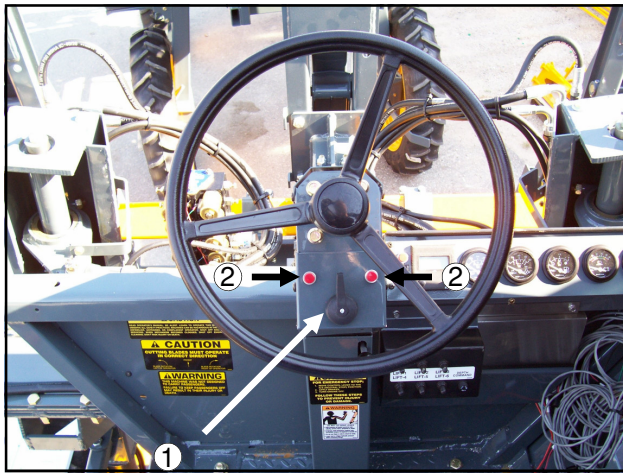
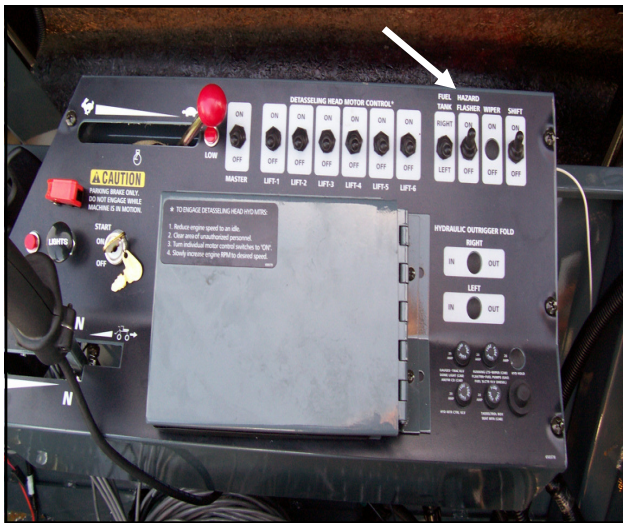
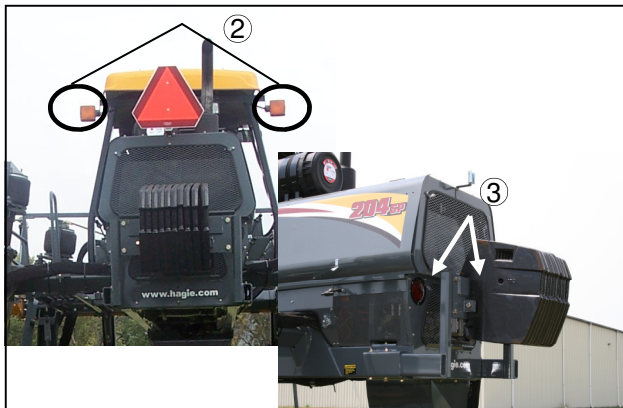

FIG 5.76
FIG 5.77
FIG 5.78
To activate the front (fig. 5.78, item 1) and rear turning signals (fig. 5.78, item 2) move the turn signal lever (fig. 5.76, item 1) right during a right-hand turn and left during a left-hand turn. Steering column-mounted turn signal indicators (fig. 5.76, item 2) will correspondingly flash when either side of the turn signals is activated. The turn signal lever is not a self-centering switch; you must return it to the “OFF” position by hand after completing your turn.
To activate the flashing hazard/warning lights (fig. 5.78, item 1 or 2) flip the “FLASHER” switch to the “ON” position (fig. 5.77). Activate the hazard/warning lights anytime traveling on a public road, day or night, unless prohibited by law.
Activating any of the work lights (see page 67) will also turn on the “RED” running lights on the rear of the machine (fig. 5.78, item 3).